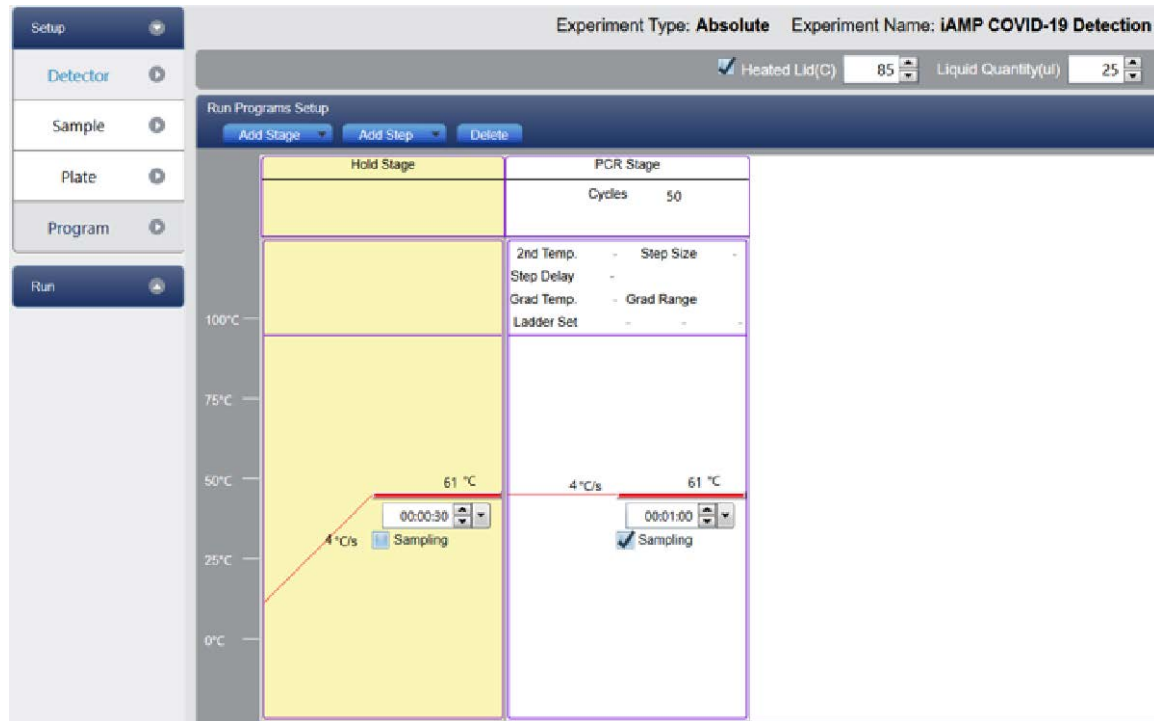

Figure 10. Program set-up using PowerGene 9600 Software.
- Setup program according to the following Table 3 and Figure 10. Fluorescence reading is taken at the **FAM/HEX** channels at the end of each cycle using the default instrument settings of the PowerGene 9600 Plus instrument.